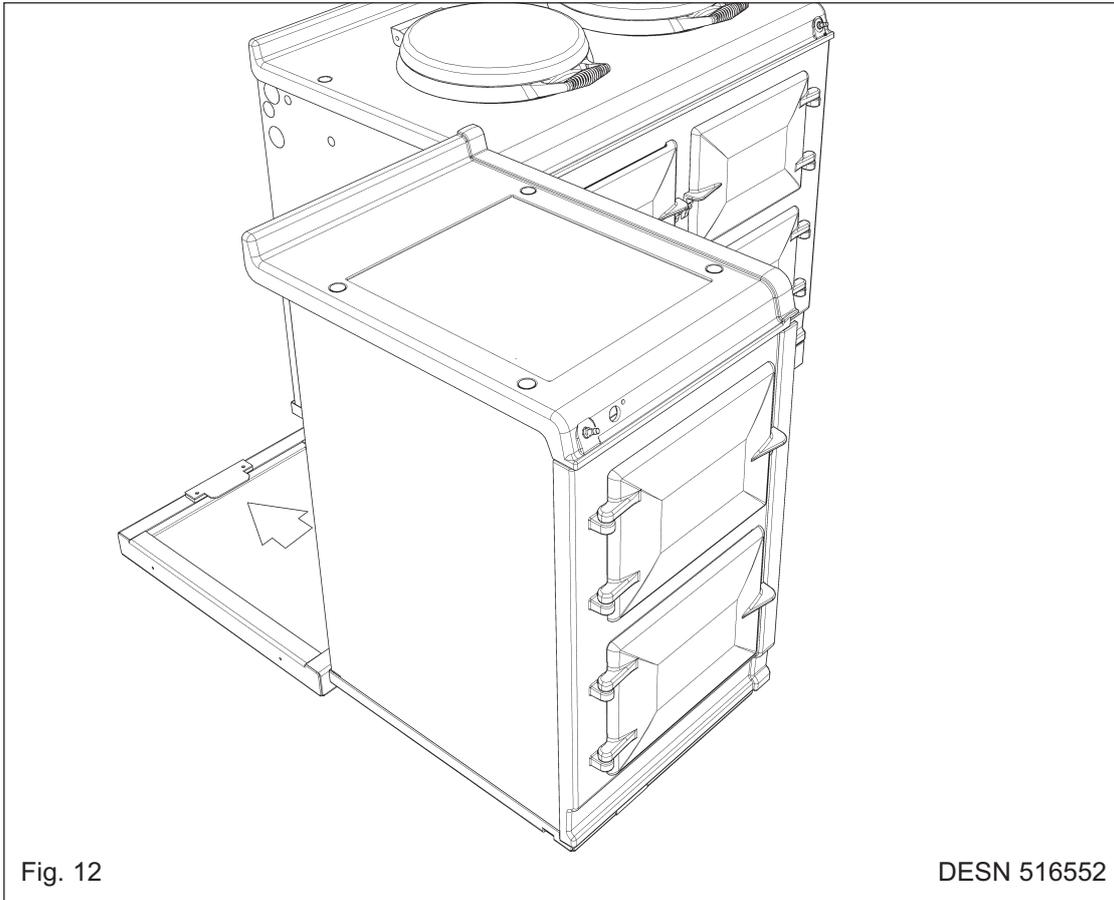

Fig. 12
- Slide hotcupboard onto plinth until rear tongue bracket engages fully into rear of base slot, (See Fig. 12). Ensure the appliance is aligned squarely with the plinth then proceed to engage the front tongue bracket into the slot on the underside of the base plate. Once satisfied that the front tongue bracket is engaged fully lock it into place by tightening the two M6 screws fully.